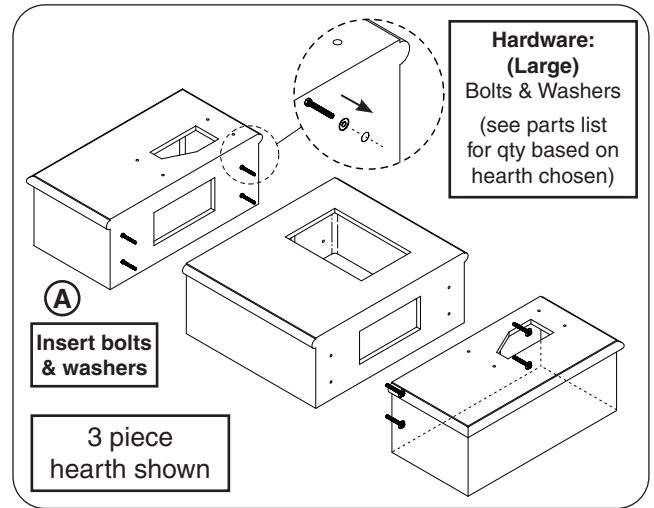

Fig. 22-1 Assemble hearth
2. Arrange the hearth pieces in their proper position. Then insert the bolts and washers (from large hardware kits) into the outer pieces of the hearth as shown in Fig. 22-1.